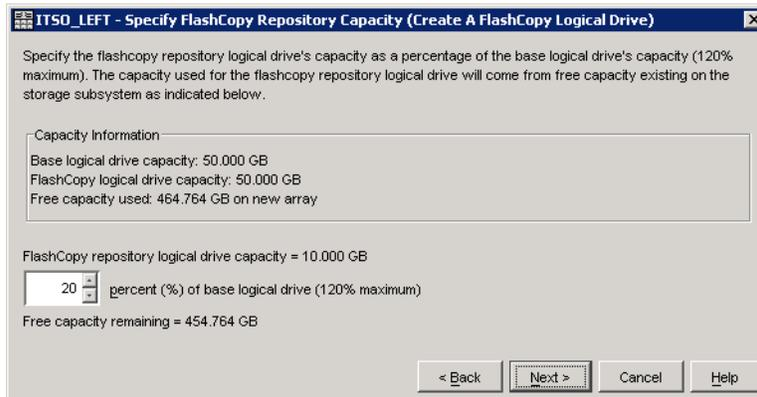

Figure 7-18 Create FlashCopy Logical Drive Wizard: Specify repository logical drive capacity
- c. The Specify Repository Capacity panel (Figure 7-18) is presented. Set the repository drive capacity as a percentage of the base logical drive's capacity (the default is 20%).